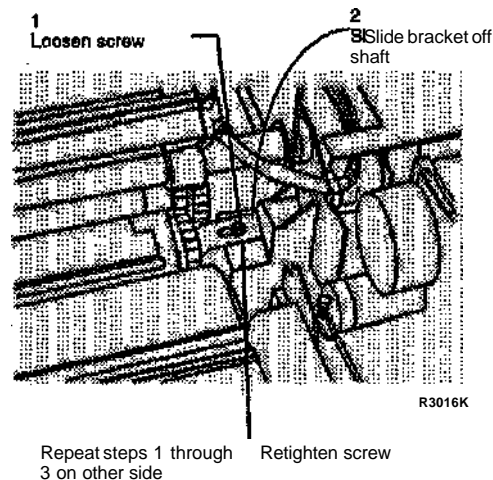

Figure 6. Disengaging the Shipping Brackets
9. (Figure 6): Disengage the Developer Module shipping brackets.